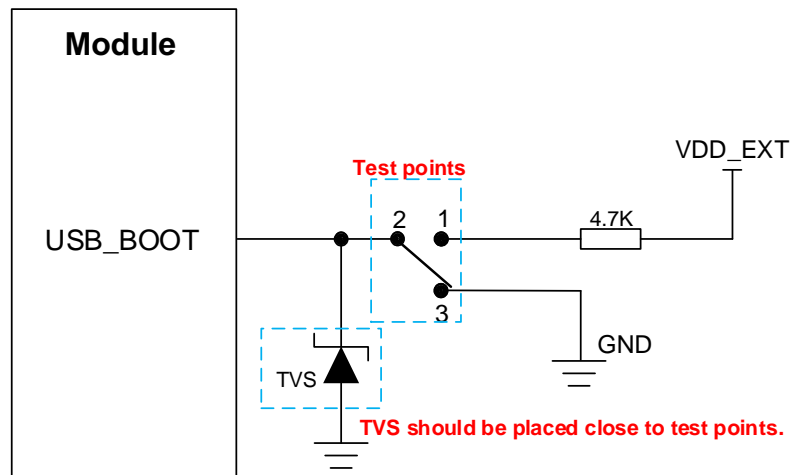

Figure 20: Reference Design of USB_BOOT
3. If you need to manually force the module to enter download mode, directly connect the test points shown in *Figure 20*.